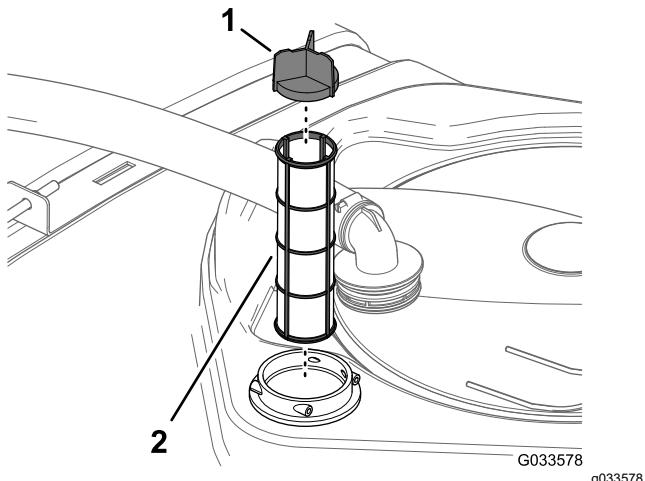

Figure 50
4. Pull the suction strainer out of the filter housing in the tank (Figure 50).